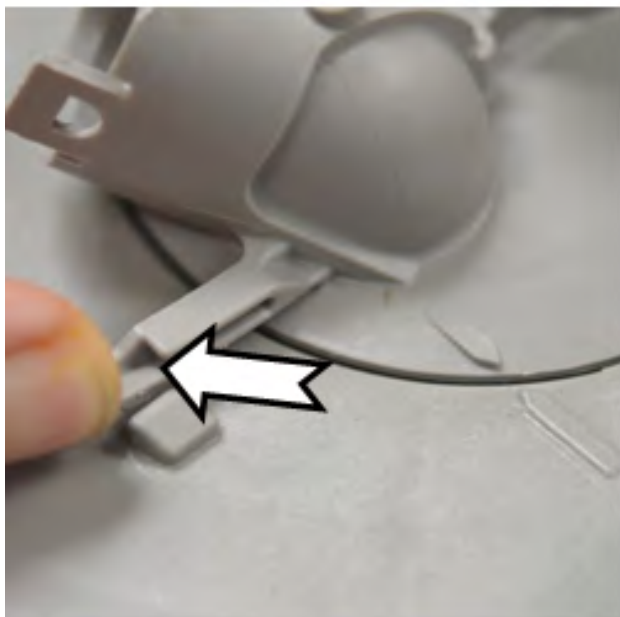

Figure 5
3. Release the lock on the diverter housing, see figure 5.